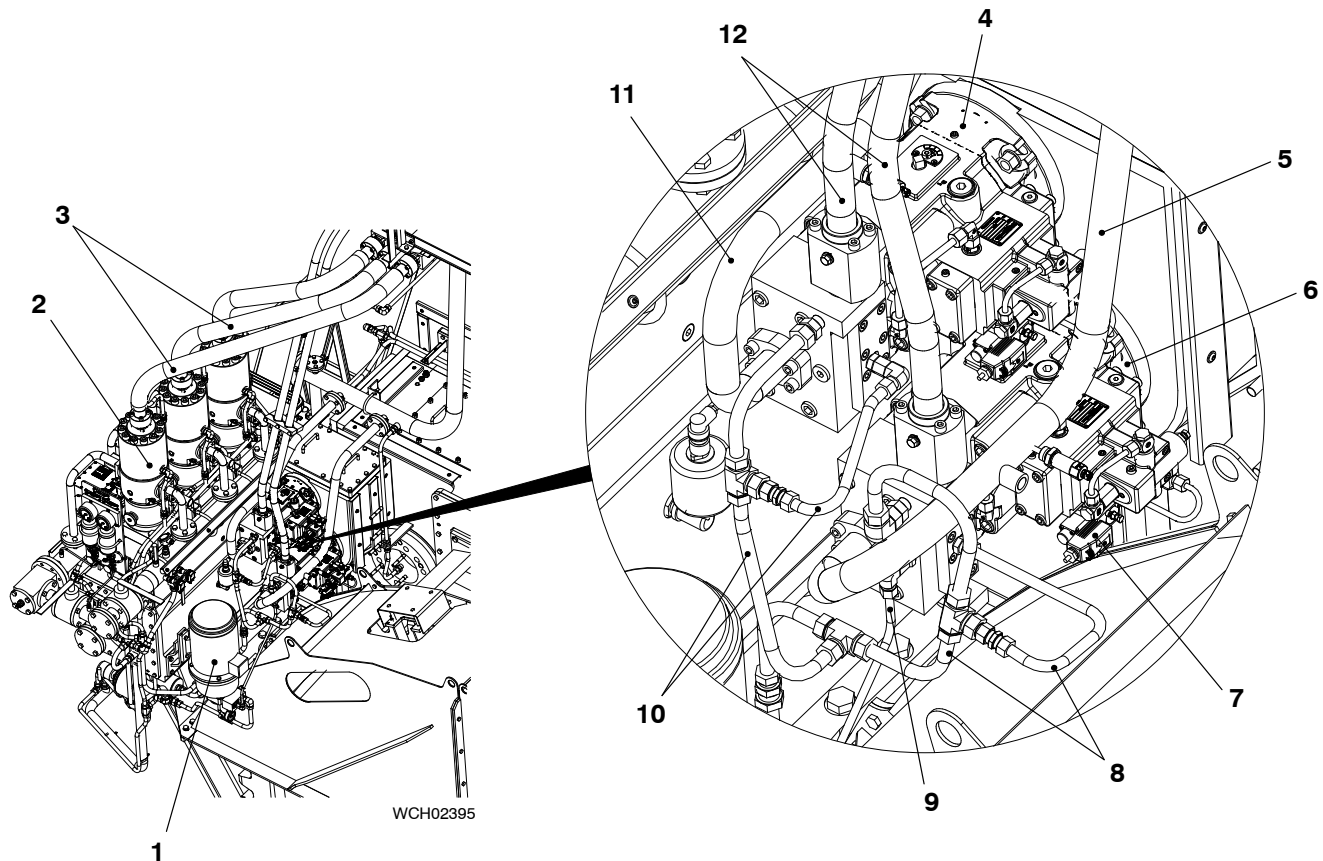

Fig. 10
- 1) Attach the oil inlet pipes (5, 11 Fig. 10) to the servo oil pumps (4, 6).